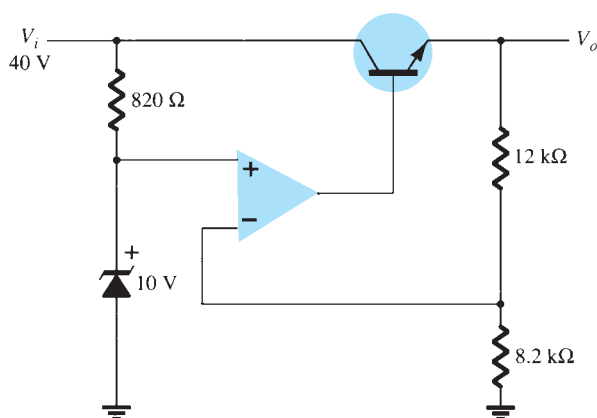

FIG. 15.44
21. Calculate the regulated output voltage in the circuit of Fig. 15.44.